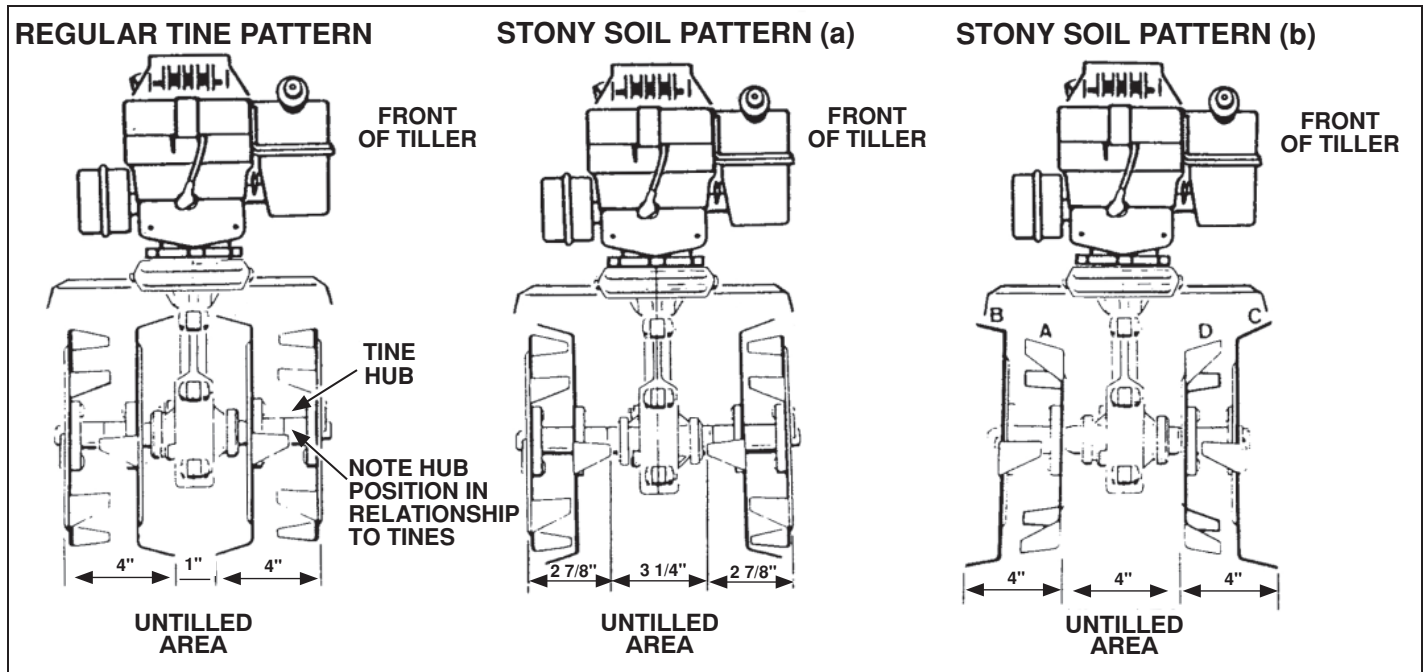

Fig. 16
9. Wearing heavy gloves, re-install tines. (For tine pattern, refer to Fig. 16 on page 11)
### TINE PATTERNS FOR STONY OR ROCKY SOIL (See Fig. 16)
Wearing heavy gloves, remove tines and re-install in one of the two stony soil patterns shown in Fig. 16. If you experience difficulty in removing tines, as a result of dirt or other foreign matter on shaft, you may wish to apply a penetrating oil on the shaft. When re-installing the tines make sure tine shaft and tine hubs are clean and free of foreign material. The tines should easily slide onto the shaft.
**NOTE:** In the stony soil tine patterns the center gap is wider than in regular tine pattern, see Fig. 16. This will require additional passes to till this untilled area.